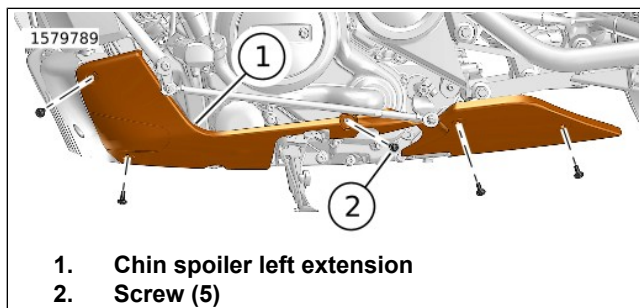

Figure 64. Chin Spoiler Left Extension
1. See Figure 64. Remove screws (2).
2. Remove chin spoiler left extension (1).
1. See Figure 64. Install chin spoiler left extension (1).
2. Install screws (2). Tighten.